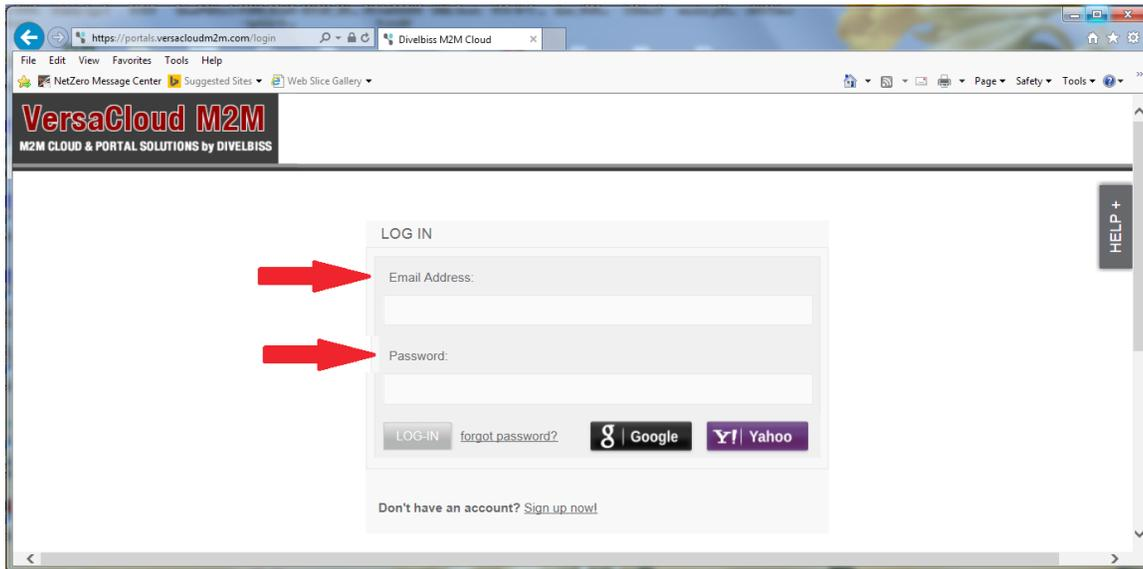

Figure 1 - Portal Log-in
1. With a completed contract and enrollment worksheet, your VersaCloud M2M portal will be provisioned. Go to <https://portals.versacloudm2m.com>. Log-in using the provided credentials (username and password provided by Divelbiss Corporation). Refer to Figure 1.